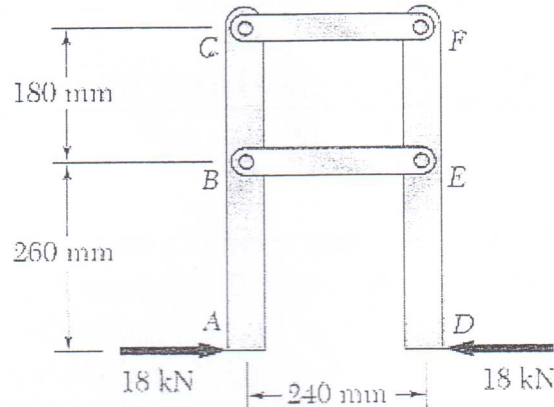

Figure 9.
- (12) Members ABC and DEF , shown in Figure 9, are joined with steel links ($E = 200$ GPa). Each of the links is made of a pair of 25 X 35 mm plates. Determine the change in length of: